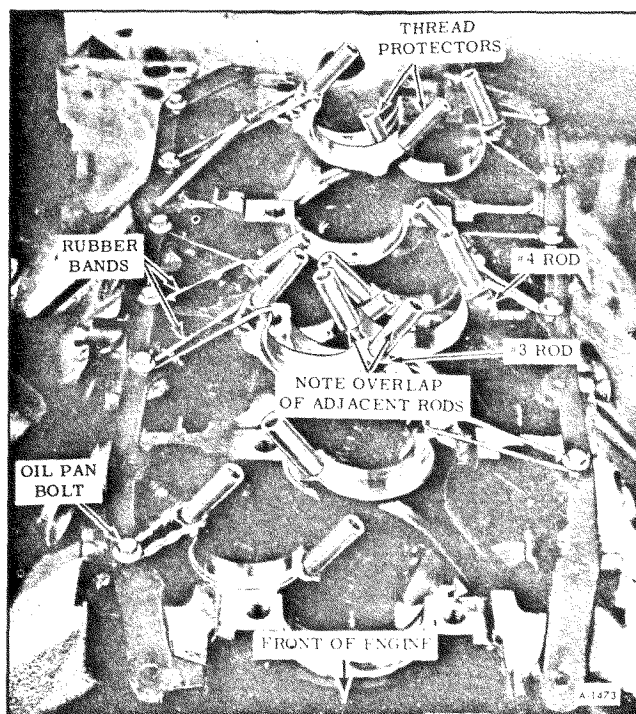

Figure 62—Crankshaft Removal
1. With engine on stand and oil pan, oil pump and front cover removed, rotate crankshaft to the position where the connecting rod nuts are most accessible. Figure 62 shows No. 3 and No. 4 rods in the fully extended position.
1. Install sufficient oil pan bolts in pan rails to align rods with rubber bands as shown in Figure 62.